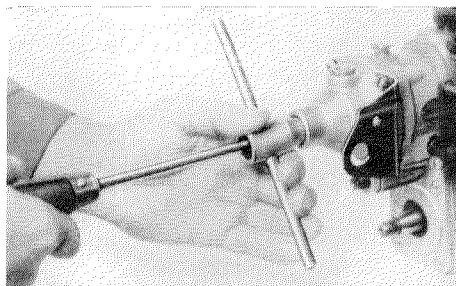

Fig. 07-8/7
The adjusting screw (6) must be secured by tightening the lock nut (7) and a new end plate (17) has to be installed in the governor housing after completing adjustment (see Fig. 07-8/6).
Check for operational ease of the control linkage and apply a few drops of oil if necessary. A few drops of motor oil must be poured into the cap oiler (2) of the atmospheric chamber and the vacuum connector (5) of the vacuum chamber of the injection pump governor. After that reinstall the vacuum line at the vacuum connector (5) (see Fig. 07-8/6). Depending on the respective version of governor wash the air filter of the atmospheric chamber in gasoline, blow out with compressed air and lightly oil again.
After the completion of these operations the governor must be lead-sealed again. Furthermore, on vehicles with cable control for the idling adjusting make sure that there is a distance of 0.1 to 0.2 mm between the adjusting collar and the adjusting lever, so that the idling stop screw (2) is properly pressed against the stop at the throttle duct (see Fig. 07-8/5).